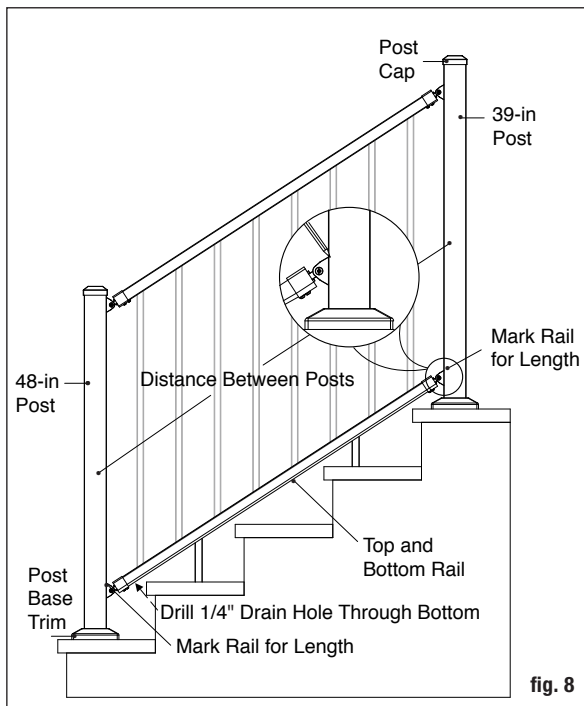

fig. 8
Step 8 A rail support is needed every 2 feet (**2 are included in the 6ft rail kit, 3 in the 8ft kit**). Attach rail support connectors to the bottom of the lower rail at 2-foot intervals using included screws. Predrill using a 1/8" drill bit. Mark the location of the rail support on the step tread and attach the other rail support connectors to the step tread (fig. 8). **Drill one 1/4" drain hole through the bottom of the rail to prevent trapping water. Position the hole toward the lower end of the rail, roughly 1.5" from rail end to avoid the lower bracket.**